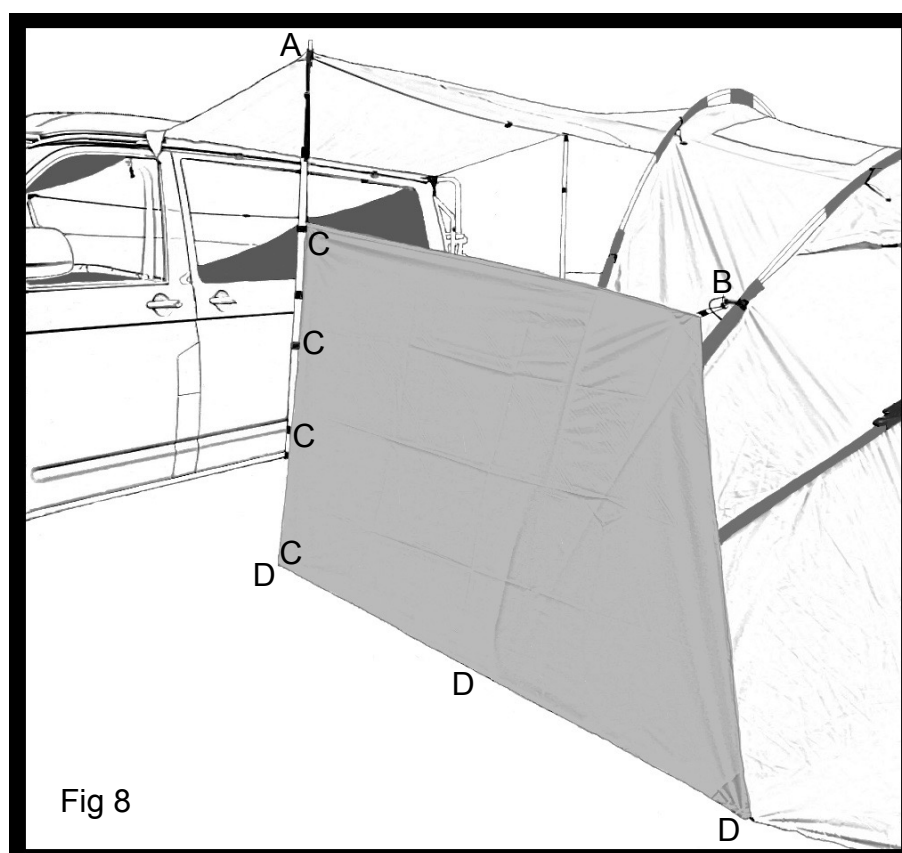

Fig 8
**ATTACHING THE PRIVACY PANEL - Fig 8**